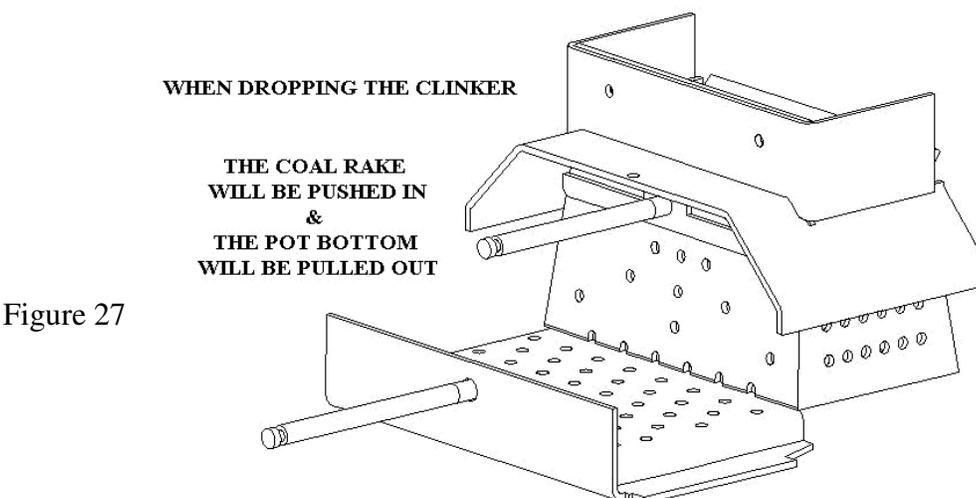

Figure 27
3. **The Slide-Out Bottom.** (See figure 27) Now you are ready to drop the clinker from the burn pot. Pull the bottom out in one quick motion and let the clinker drop into the ash pan. Quickly push the bottom in again. To pull out the slide bottom use the Rod Handle tool that came with the unit.